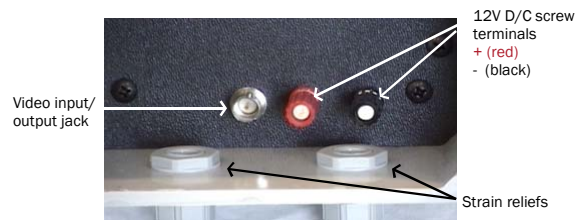
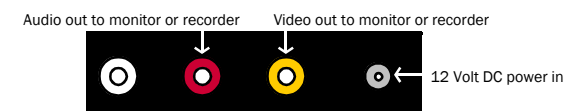

Figure 1
Figure 2
3. Use a standard RG59 cable to connect the video output from the video source to the video input inside the transmitter (see Figure 1). Insert the cable through the weather-resistant strain-relief and connect with a BNC connector.
5. Run the provided D/C wiring harness through the second strain-relief. Connect to the screw terminals inside the transmitter, connecting red to red and black to black (see Figure 1).
3. Use a standard RG59 cable and a BNC connector to connect the video output jack inside the receiver (see Figure 1). Insert the cable through the weather-resistant strain-relief and connect to the video input jack on your monitor or recorder (see Figure 2).
5. Run the provided D/C wiring harness through the second strain-relief. Connect to the screw terminals inside the receiver, connecting red to red and black to black (see Figure 1).